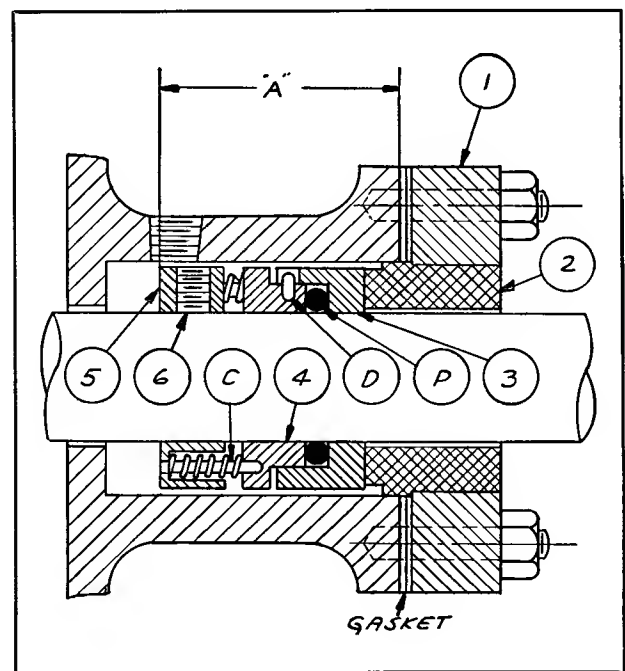

Fig. 15 — Dura Seal mechanical seal.
2. Dura Seal Mechanical Seal (Fig. 15)
Figure 15 shows the construction of a Dura Seal mechanical seal. The Dura Seal must be lubricated by water from the discharge side of the pump except when special liquid is being handled. The gland insert can be lubricated and cooled externally if necessary. For full information on this method of cooling consult the factory.